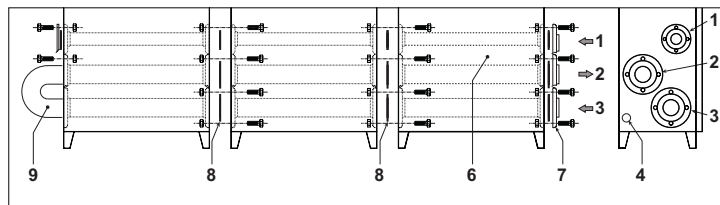

fig. 18
- Connect the delivery to the return on the last module (see fig. 18).